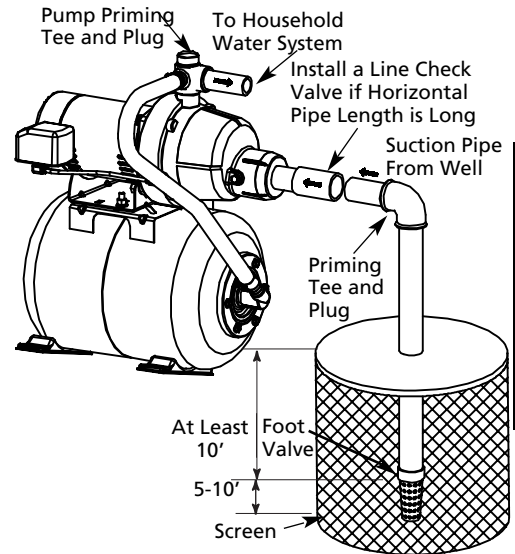

Figure 5 – Surface Water Installation
(see Figure 5)
2. Assemble a foot valve and suction pipe (see Figure 5). Make sure that the foot valve works freely. Use PTFE tape or a PTFE-based pipe joint compound on threaded pipe joints. Protect the foot valve assembly from fish, trash, etc, by installing a screen around it (see Figure 5).
4. Install a priming tee, priming plug, and suction pipe to the pump (see Figure 5). Support the pipe so that there are no dips or sags in the pipe, so it doesn't strain the pump body, and so that it slopes slightly upward from the well to the pump (high spots can cause air pockets which can air lock the pump). Seal the suction pipe joints with PTFE tape or a PTFE based pipe joint compound. Joints must be air- and water-tight. **If the suction pipe can suck air, the pump cannot pull water from the well.**